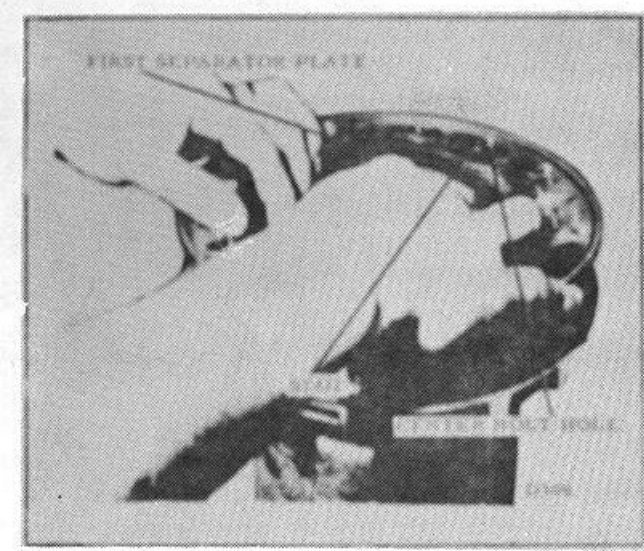

Figure 24.
**NOTE:** Each separator plate is slotted to its outside edge in four places. The first plate should be placed in the clutch ring so that the slots are in line with the center holes in each group of holes of the end housing. (Fig. 24) Do not align the second plate with first, but rotate it the width of one tooth to the right or left (Fig. 25) before dropping it into clutch ring.